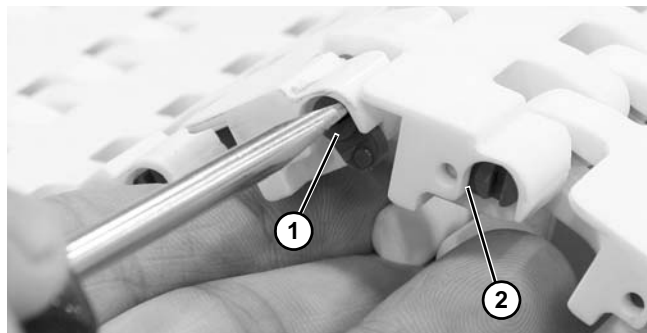

Figure 20
10. Insert a flat blade screwdriver into the slot on the rod head (**Figure 20, item 1**). Rotate rod head clockwise into the locked position (**Figure 20, item 2**).